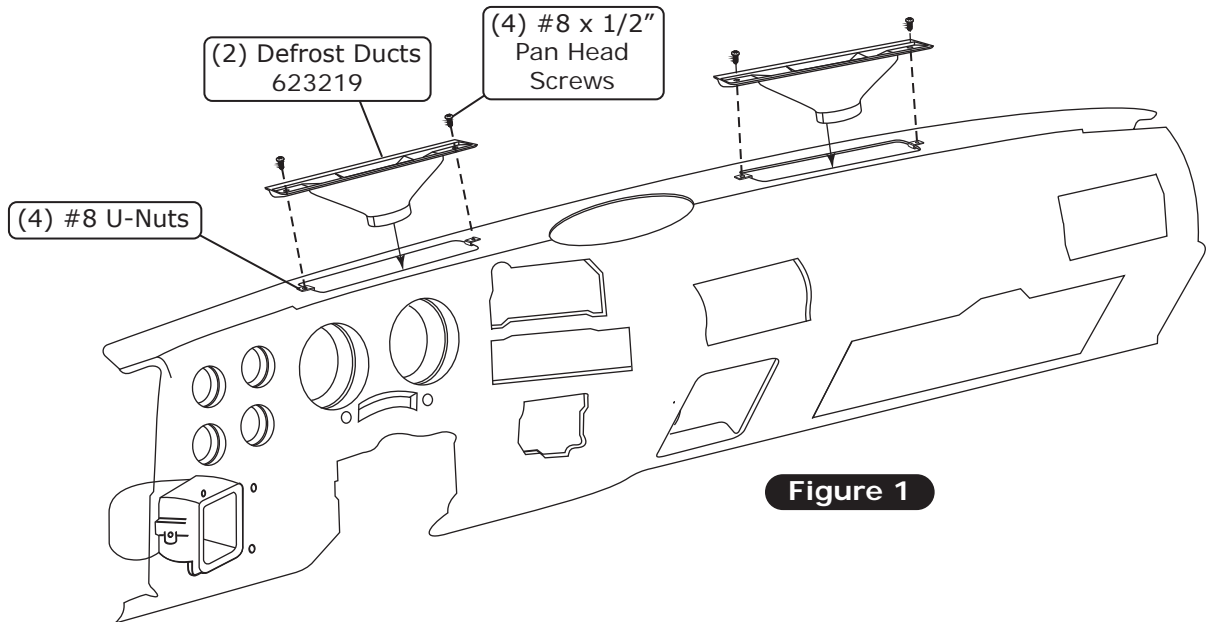

Figure 1
1. Install (4) #8 U-nuts onto the OEM defrost duct openings as shown in Figure 1, below.
2. Install the driver- and passenger-side defrost ducts into the openings and secure using (4) #8 x 1/2" pan head screws (See Figure 1, below).
1. Apply a 1/4" bead of silicone around the mating surface of the fresh air cap as shown in Figure 1, below.